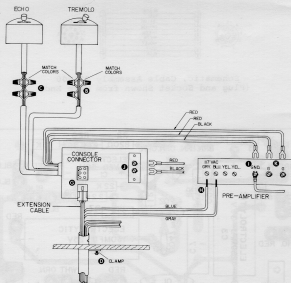

Figure 1. Interconnections
5. Connect the three wires from the tremolo control to the correspondingly colored jacketed wires from the console connector, using wire nuts. (B, figure 1)
6. Connect the four wires from the echo control to the correspondingly colored jacketed wires from the console connector, using wire nuts. (C)
7. Locate the "down tube" in the organ. Remove the screw from the locking clamp which holds the down tube (on top of the junction box). Slide the tube up approximately three inches. (D)
9. Drop a string through the down tube and tie the string around the plug of the extension cable. (F)
10. Pull the cable up the tube and into the tone generator section of the organ. Remove the string. Insert the plug into the appropriate socket on the console connector. (G, figure 1)
11. Connect the blue and the gray extension cable wires to the 117V AC terminals behind the protective cover on the organ pre-amplifier. (H)
13. Connect the black wire from the console connector to the GND terminal on the organ pre-amplifier. (I, figure 1)
14. Remove the red and the black wires from the two G terminals on the pre-amplifier and connect them to the two screw terminals on the console connector. (J)
15. Connect the two red wires from the console connector to the G terminals. (K)